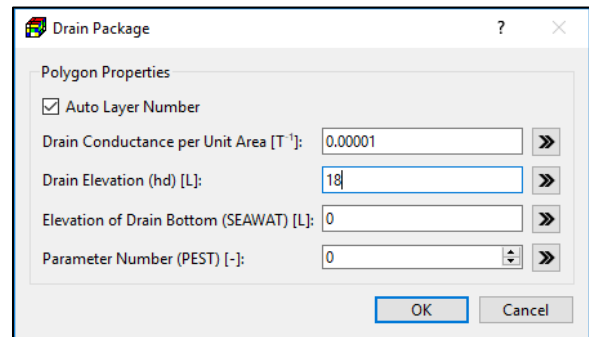

Figure 26. The Drain Package dialog box
- Most polygon data-entry dialog boxes include >> buttons next to data entry fields. Figure 26, for example, shows the Drain Package dialog box with these buttons. Clicking the button next to a parameter replaces the data of cells located within the polygon with that parameter value.